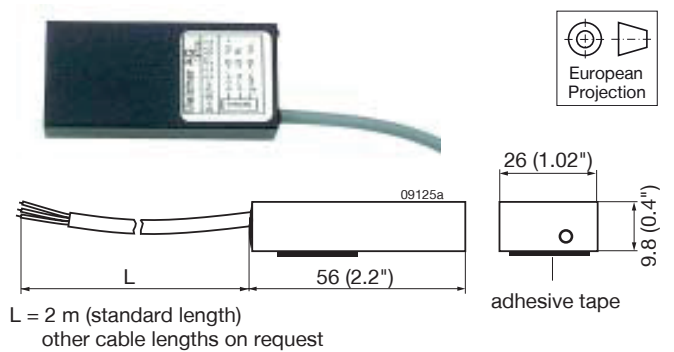

Fig. 50
- Different battery sensors S-KSMH... for using the converter as a battery charger. Different cell characteristics can be selected; see fig. 50, table 24, and *Battery Charging/Temperature Sensors*.